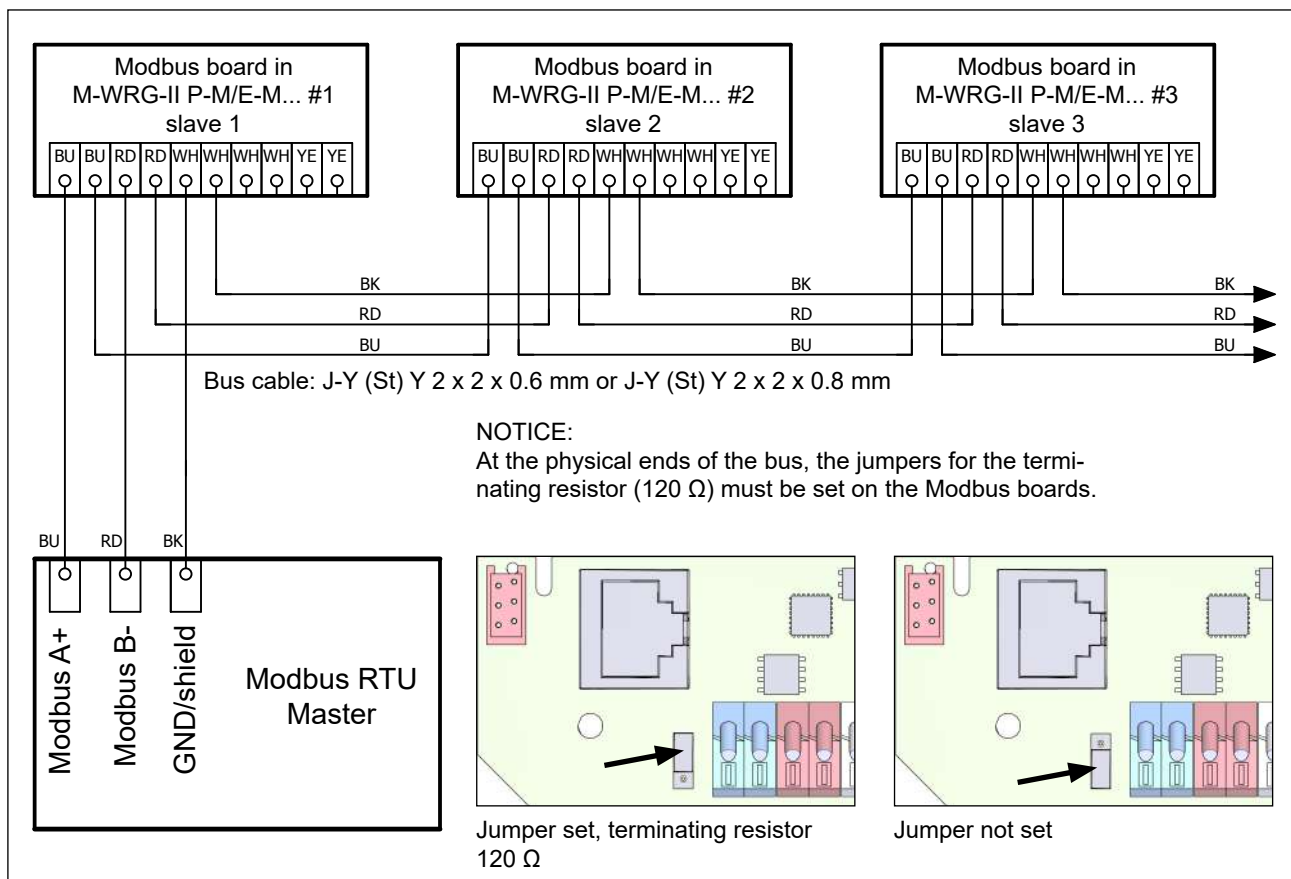

Fig. 24: Modbus wiring diagram
- ▶ Connect up the wiring as shown in Fig. 24 on page 41.